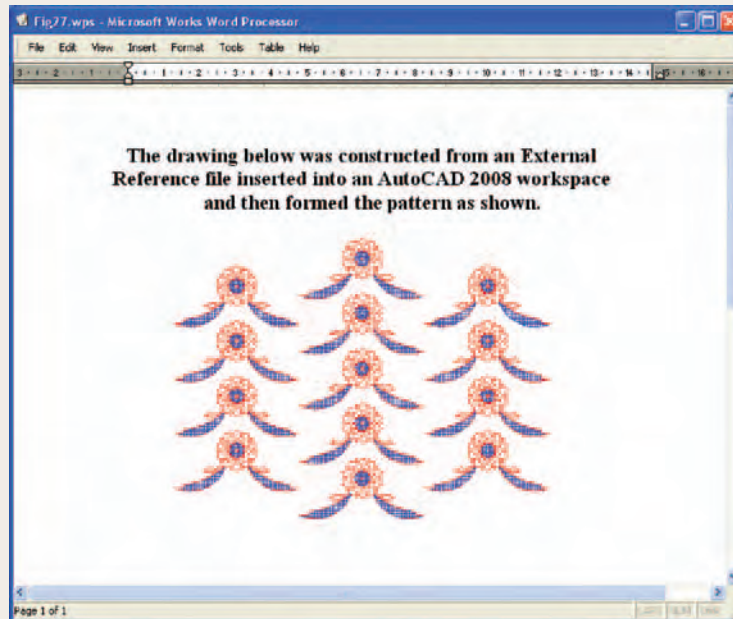

Fig. 10.32 Exercise 4 – an example
4. Using **Copy** from the **Insert** drop-down menu, copy a drawing from AutoCAD 2009 into a Microsoft Word document. An example is given in Fig. 10.32. Add some appropriate text.